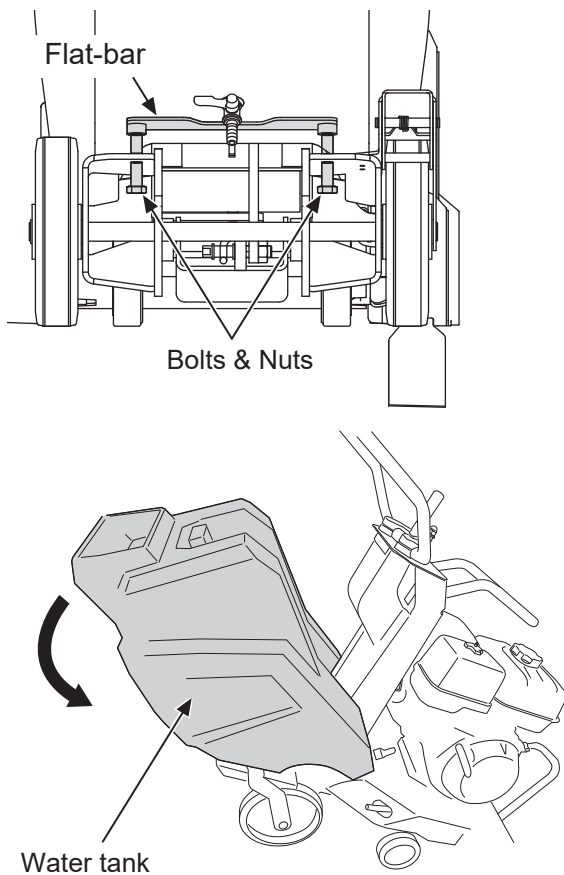

Fig. 7
- Loosen bolts and nuts below the tank. And take off the flat-bar and water tank. (Fig. 7)
● **How to use cutting depth gauge (Fig. 7)**